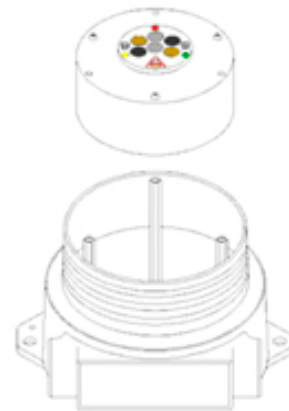

Figure 2-9
4. Slide the Detector Module puck out of the enclosure base (see *Figure 2-9*).